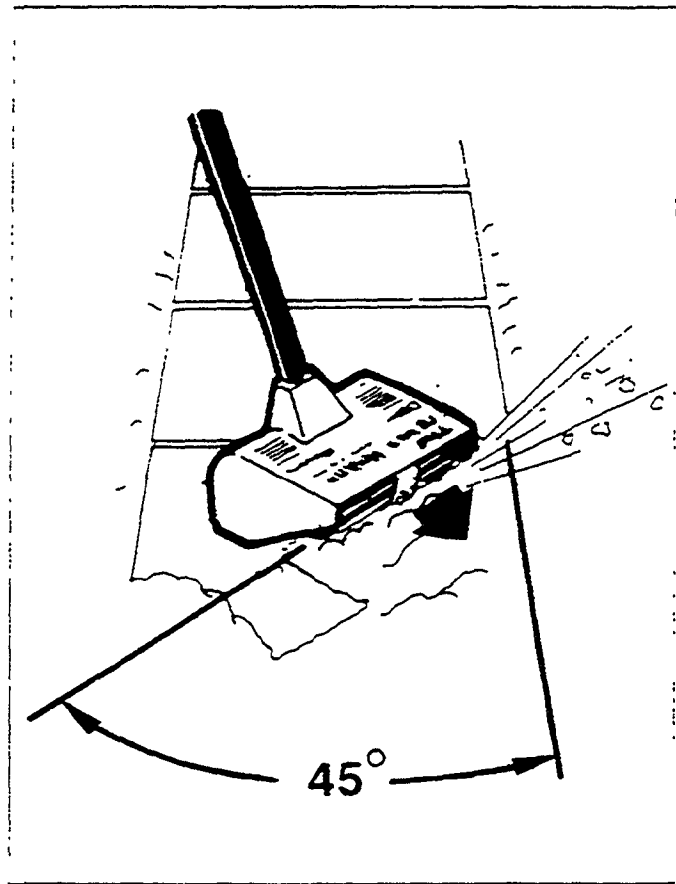

Figure 38
- Push the unit at an angle of approx. 45° to the path you wish to clear until you reach arm's length. Lift it out of the snow, and return to your first starting point to make another pass, moving forward with each angular pass (Figure 38, page 16).